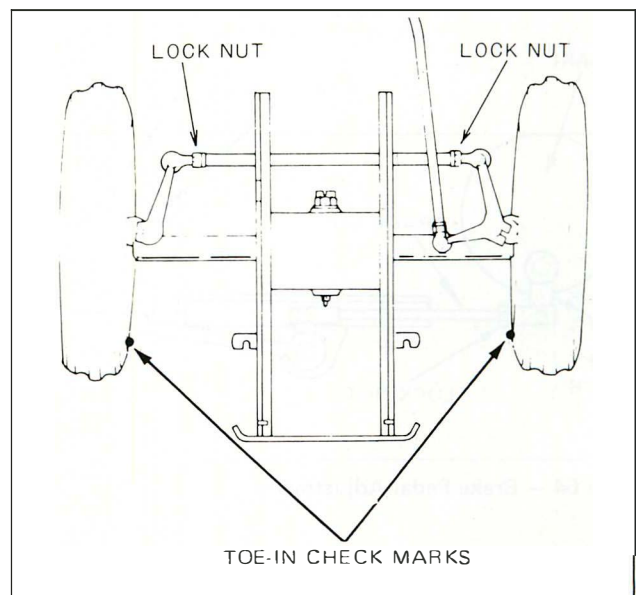

Figure 63 — Checking Toe-In
1. With the front wheels in the straight-ahead position, mark the front of the wheels (not the tires) at wheel hub height (Figure 63). Determine the straight-ahead position by turning the steering wheel from lock to lock and then halfway back.